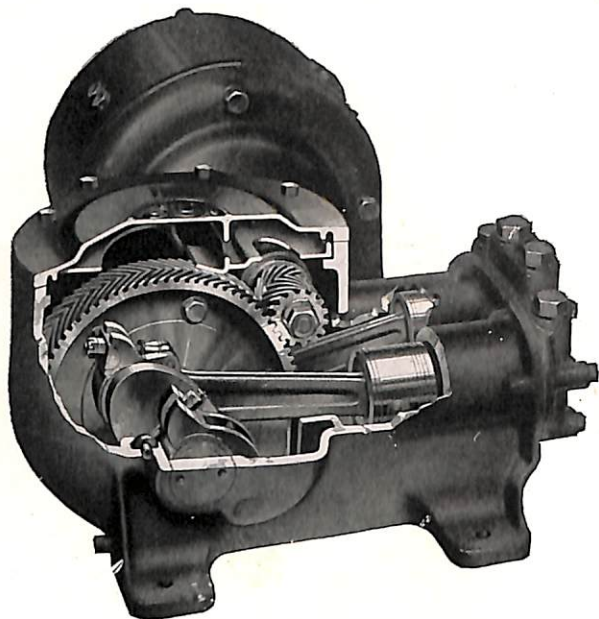

Fig. 8. CP-27 Air Compressor, Section View Showing Compressor End
7. Uncouple the connecting rod of one piston at the crank shaft. (Fig. 8.) Turn the crank shaft by means of the armature until the connecting rod can be lowered to the bottom of the crank chamber. Turn the hinge bolt until it rests along the top of connecting rod.
11. Loosen the nuts and turn back the hinge bolts and bearing caps of the crank shaft. (Fig. 8.) Lift out the crank shaft, gear and the crank shaft linings.